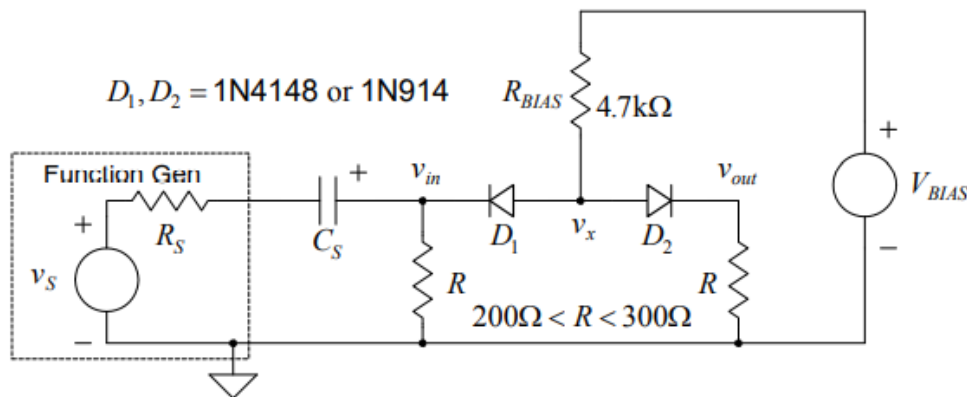

Figure 1.
6. For the circuit of Figure 1, find an expression for the diode currents  $I_{D1}$  and  $I_{D2}$  in terms of  $V_{BIAS}$ ,  $R_{BIAS}$  and  $R$ . You may assume that  $V_D = 0.7\text{V}$  and that the  $C_S$  prevents DC current from flowing through the function generator.
7. Find an expression for the small-signal gain  $V_{OUT}/V_{IN}$  for the circuit of Figure 1 in terms of the diode small-signal resistance (let  $r_d = r_{d1} = r_{d2}$ ) and  $R$ . Ignore  $R_{BIAS}$  here since it is much greater than any of the other resistances in the circuit.
1. Enter the circuit of Figure 1 into SPICE. Select  $C_S$  between 2  $\mu\text{F}$  and 10  $\mu\text{F}$ . Set  $V_{\text{BIAS}} = 6\text{V}$ . Set  $v_s$  to zero for this step. The default value for  $R$  is 240  $\Omega$ . Make sure that the simulation setup enables the bias point detail.
1. Construct the circuit of Figure 1. Connect the +ve side of  $C_S$  to  $V_{\text{in}}$ . Set  $V_{\text{BIAS}}$  to +6V. (-V= -1V and +V=5V total 6V)